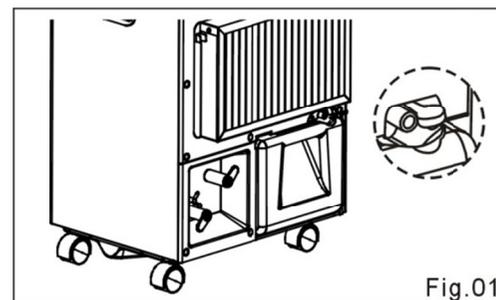

Fig.01
1. Please unplug the stopper before starting the unit.(See Fig.01)